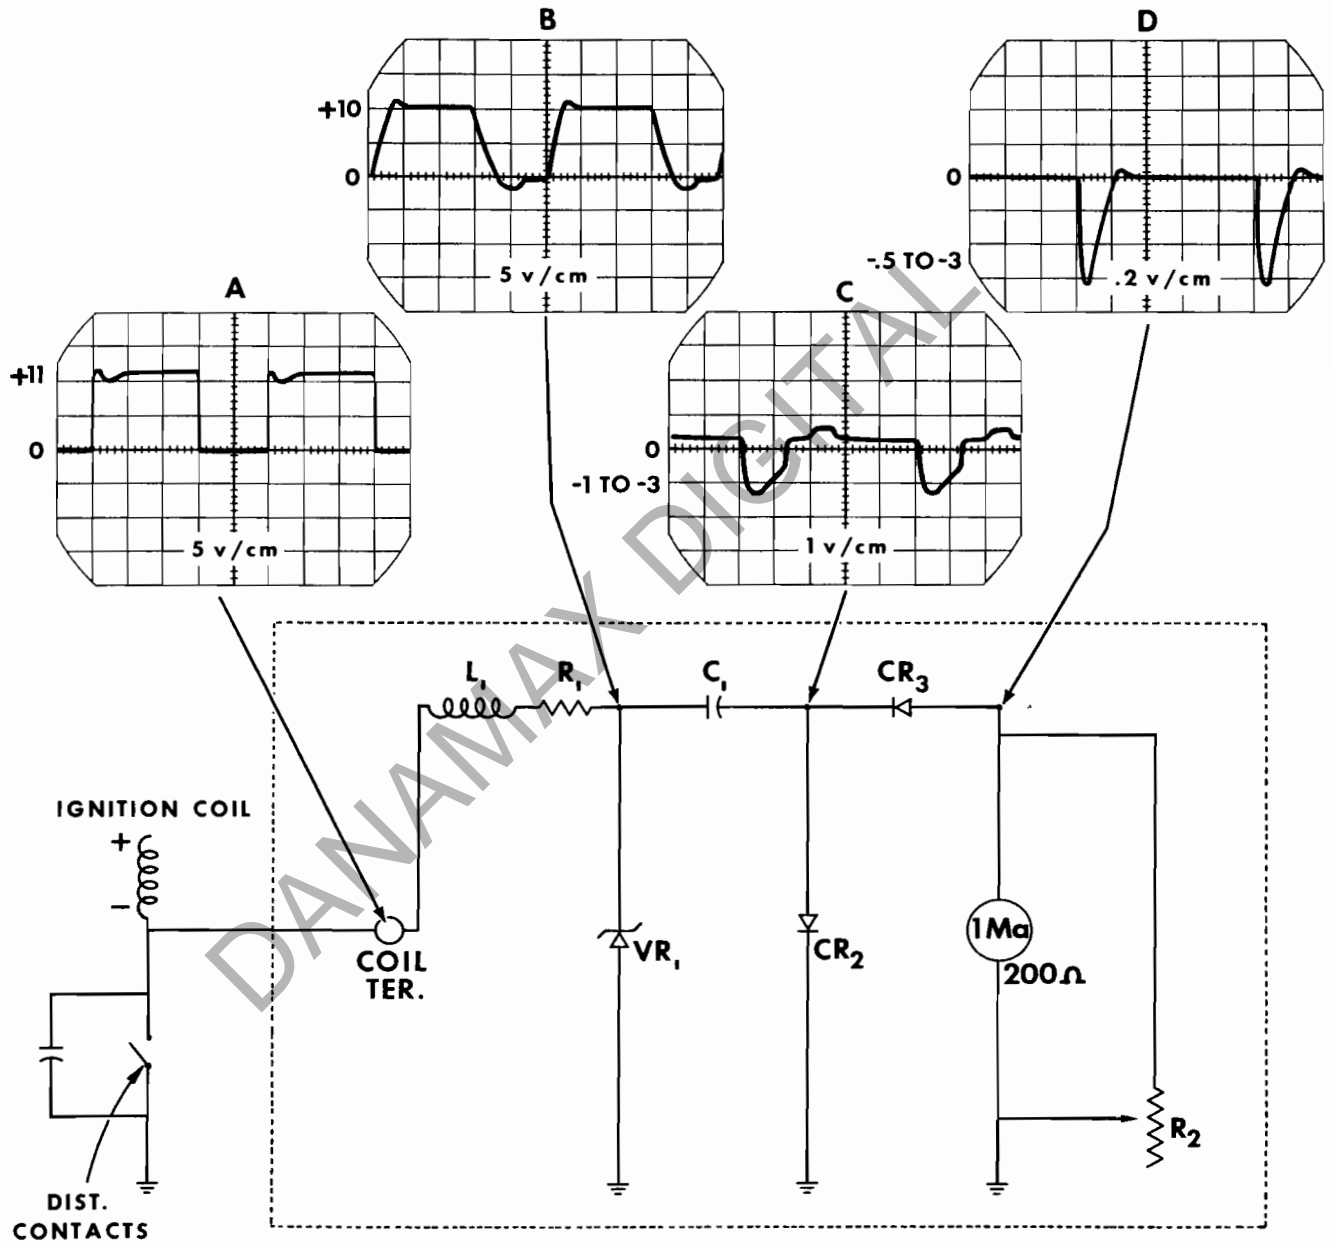

FIGURE 8
2. Connect oscilloscope to points A, B, C, etc. as shown in test circuit diagrams Fig 8, 9, and 10 until an improper wave shape is shown.